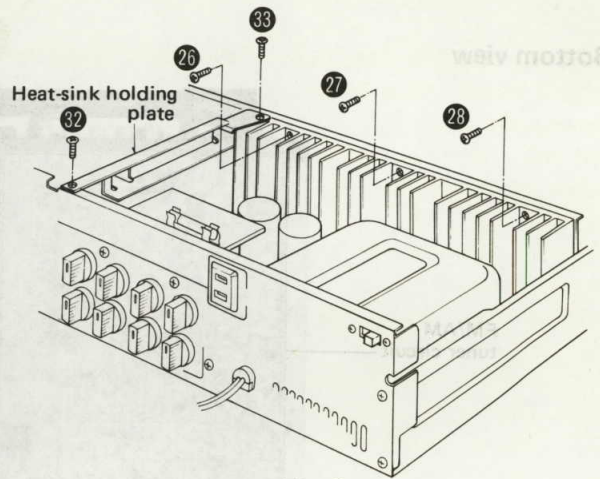
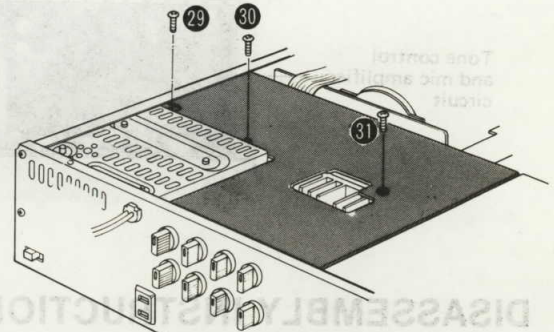

Fig. 5
Fig. 6
3. Remove the 6 setscrews (Fig. 5 : 26 ~ 28 , Fig. 6 : 29 ~ 31) of the heat-sink and the 2 setscrews (Fig. 5 : 32 , 33) of the heat-sink holding plate.